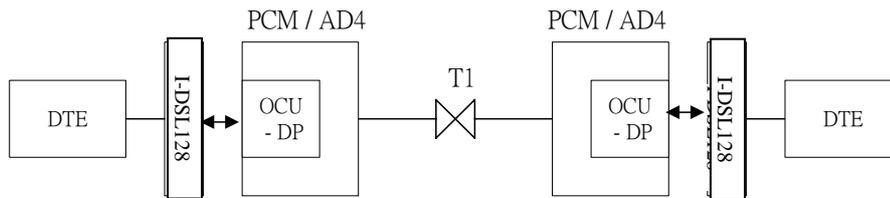

Figure 1 *I-DSL128* connects with multiplexer system
- The *I-DSL128* delivers dedicated digital access to remote users when they are connected to a central office over a PCM, Advance D4 Channel Bank (AD4), Digital Loop Carrier (DLC) system or U loop ISDN repeater (Figure 1).